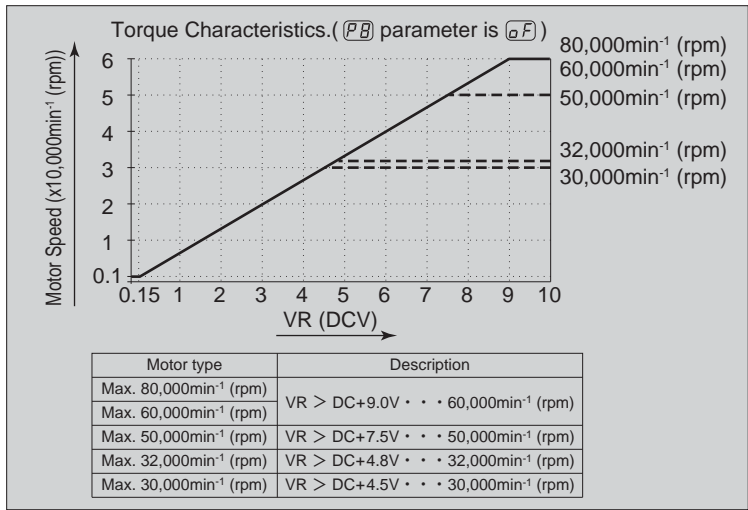
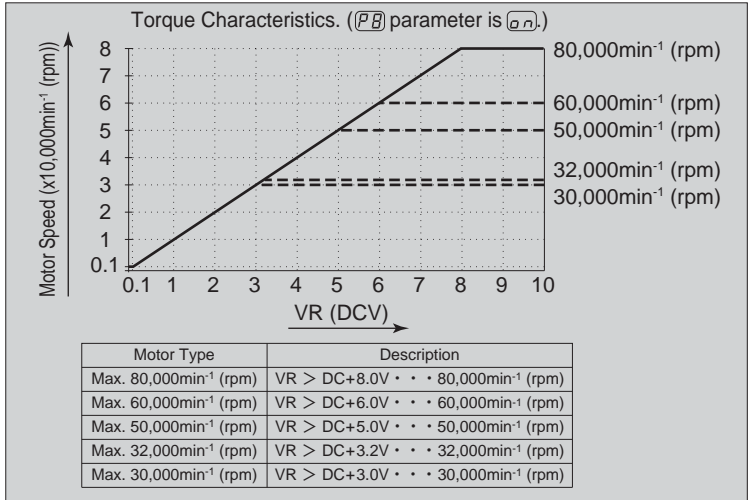

Fig. 43
Fig. 44
- The Fig. 43 are Characteristics of the VR and rotation speed by parameter **P8** set to **0F**. The Fig. 44 are Characteristics of the VR and rotation speed by parameter **P8** set to **00**.